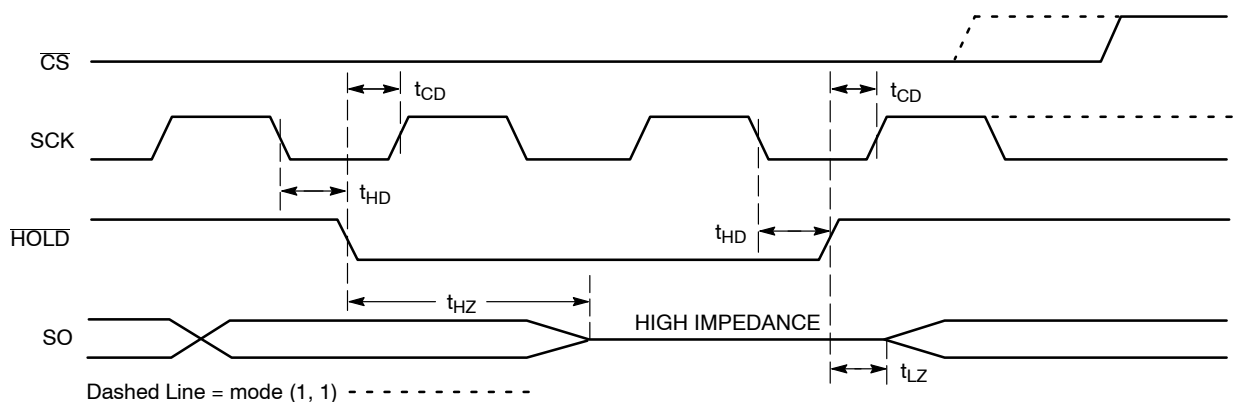

Figure 11. $\overline{\text{HOLD}}$ Timing
The $\overline{\text{HOLD}}$ input can be used to pause communication between host and CAV25080/160. To pause, $\overline{\text{HOLD}}$ must be taken low while SCK is low (Figure 11). During the hold condition the device must remain selected ($\overline{\text{CS}}$ low). During the pause, the data output pin (SO) is tri-stated (high impedance) and SI transitions are ignored. To resume communication, $\overline{\text{HOLD}}$ must be taken high while SCK is low.